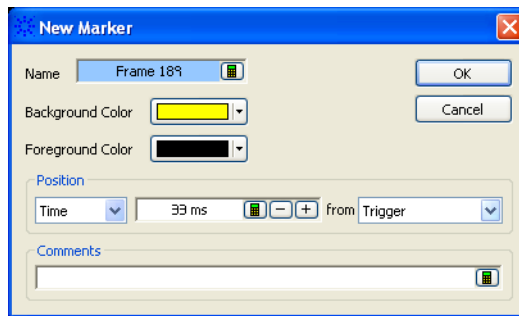

Figure 57 New Marker Dialog Box
- 5 When the data is displayed, click the zoom out button located at the top of the screen. Click the move right button to center the data. See Figure 57.